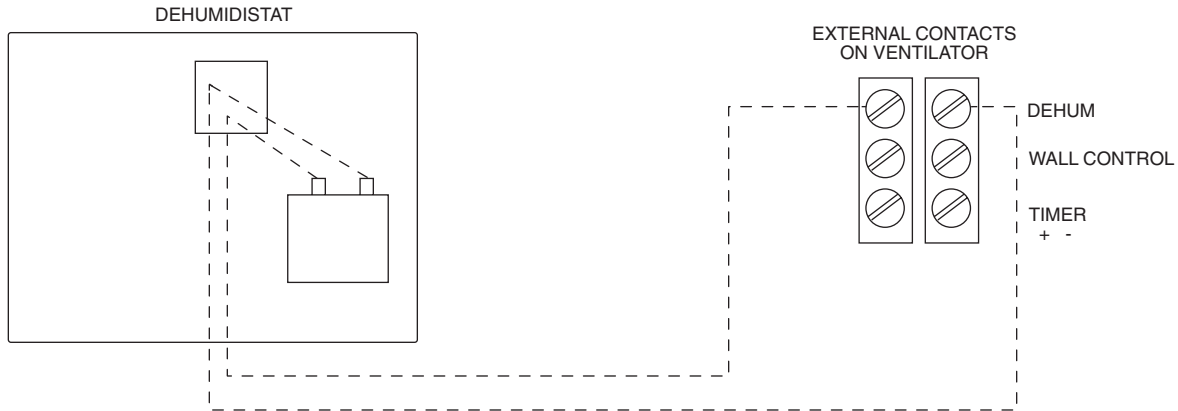

Fig. 2 — Dehumidistat Wiring
3. Connect two wires to the DEHUM terminals on ventilator. See Fig. 2. Polarity does not matter. Either wire can be connected to either terminal.